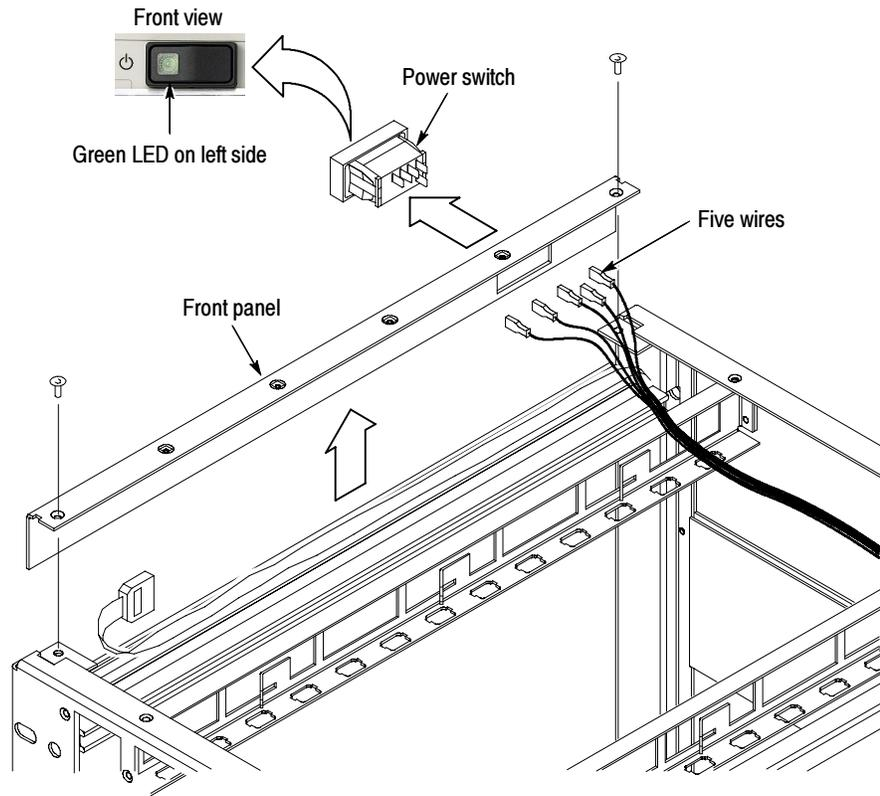

Figure 17: Removing the instrument front panel
2. Note the orientation of the power switch. (The green LED is toward the front-left side; see Figure 17).